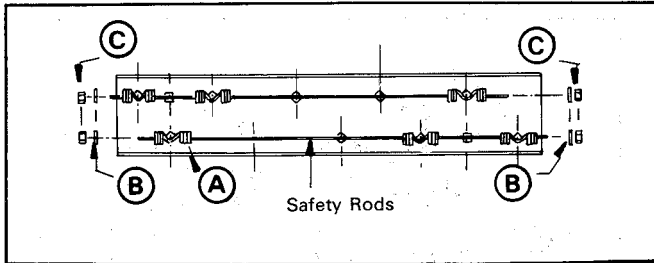

FIGURE 4.
FIG. 4. Insert the safety rods through the coils of the tines (A) as shown. Secure with large washers (B) and ¼" hex lock nuts (C). Do not overtighten nuts. Rods must be free to move slightly from side to side.